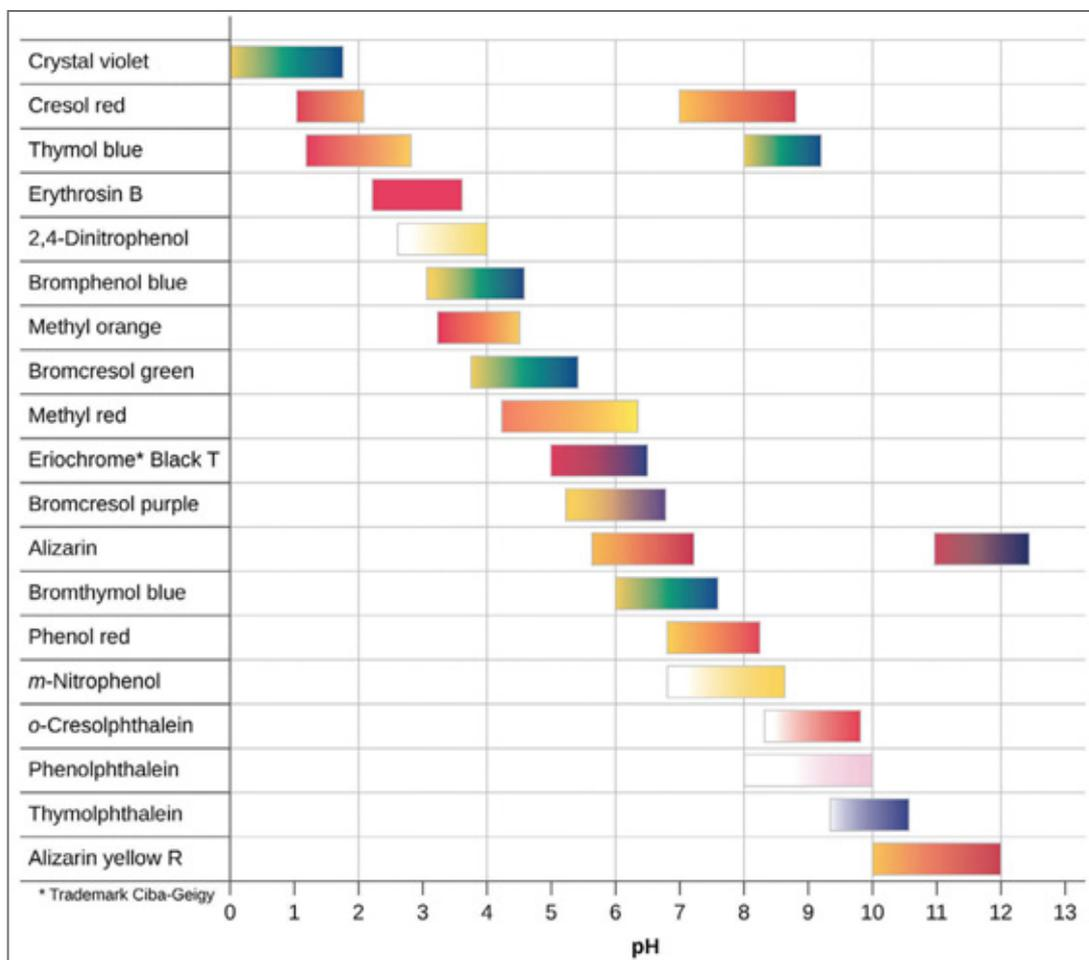

FIGURE 2 The colour changes of some acid–base indicators and the pH at which these changes occur
- 4 The equivalence point occurs on a section of the graph where pH changes between 3 and 11 with the addition of one drop of titrant, so a pH indicator can be selected that changes colour between these pH values. Table 1, on the next page lists some relevant acid–base indicators and Figure 2 shows the colours of various indicators.
The QCAA formula and data book has seven different pH indicators that you will need for your external examination. These can be found in Section 4.3. Figure 2 shows many more pH indicators.